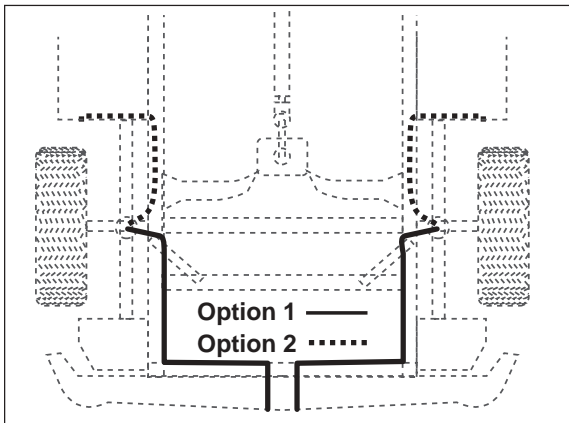

Figure 8
1. Select a location for the inflation valves in the rear bumper area or rocker panel flange ensuring that each valve will be protected and accessible with an air hose (Figure 8).
2. Route air line along frame from inflation valve location to the air fitting (Figure 8). Attach air line to chassis with the provided plastic straps.